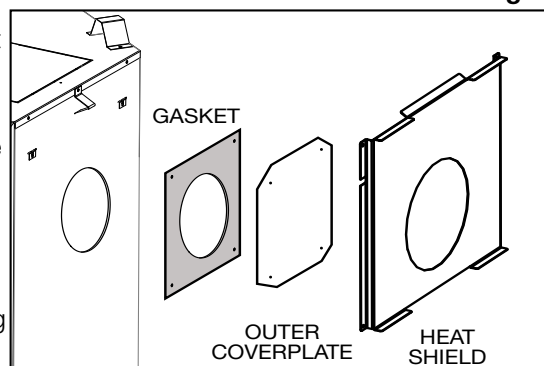

Fig. 2
- D. Remove the four screws securing the rear heat shield, set aside the shield. Remove the four screws securing the gasket and outer coverplate. (**Fig. 2**).